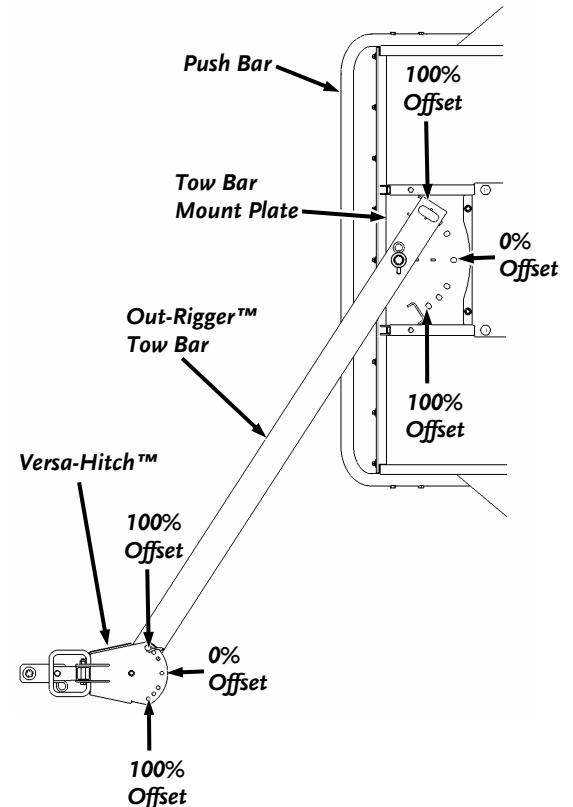

Figure 17
When performing offset mowing, always be sure that the Out-Rigger™ Tow Bar angle setting (**Figure 17**) and the Versa-Hitch™ angle setting match. This allows the tow-behind DR field and brush mower to track parallel to the tow vehicle.
3. Move the Mower, using the Push Bar, until you have approximately aligned the Tow Bar with the desired Offset angle (**Figure 17**).